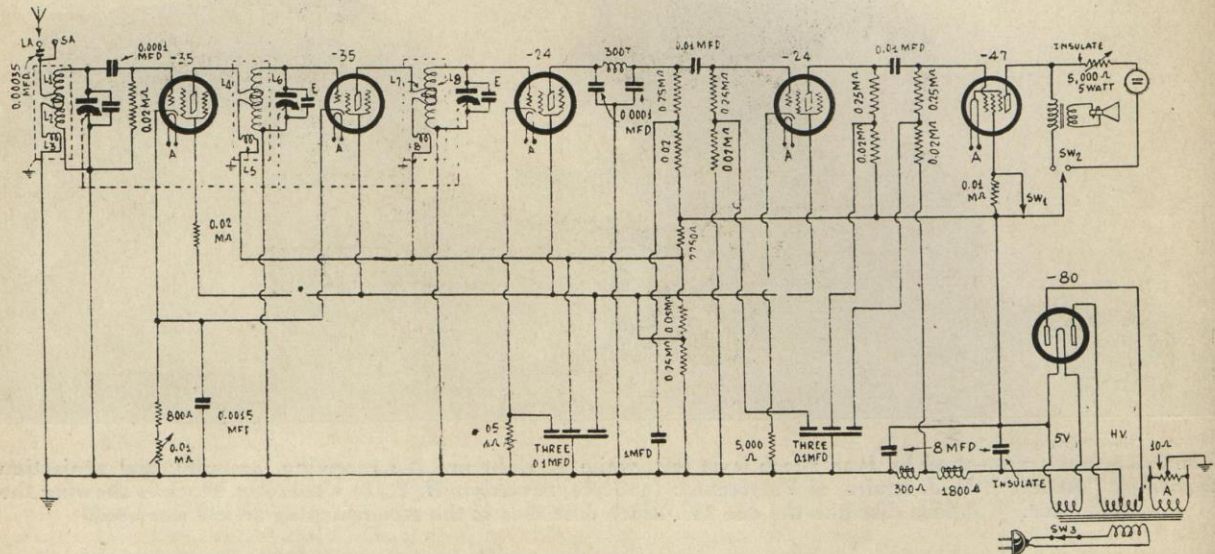
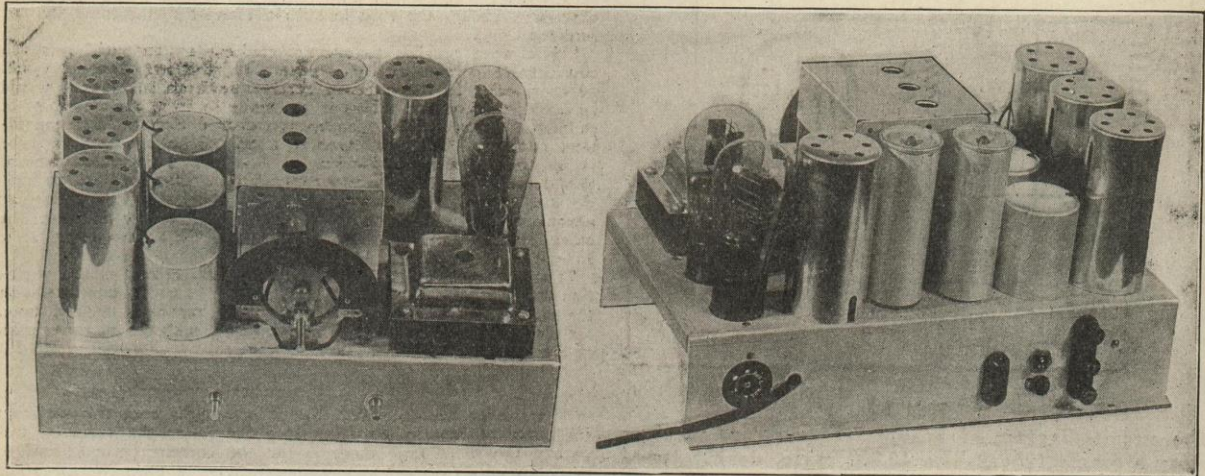

FIG. 1
FIG. 2
Three 20-100 mmfd. equalizing condensers, set at maximum for 0.0001 mfd. shown in Fig. 1.
The circuit diagram, Fig. 1, has the coils designed L1, L2, L3, L4, L5, L6, L7, L8, L9, the data for winding which have been given. The coils should be shielded and the shields grounded which grounding results if a grounded metal panel is used. E represents equalizing condensers built into the main tuning condensers. The tubes are identified. All resistors may be of 1 watt rating, unless otherwise marked. These two exceptions are the 2,250 ohm 5 watt, to reduce the maximum B load to a lower voltage for tuner plates, and the 5,000 ohm 5 watt rheostat. Add the 10 ohm
The front and rear views of the receiver, as built up by the author, are shown in Figs. 2 and 3. The tuning condenser is shielded, and the equalizers are accessible to a screwdriver. It is well to trim the circuit somewhere between 30 and 50 on the dial. The r-f and detector tubes are at left, Fig. 1, the detector at rear, and these tubes are shielded.
The television terminals are represented by the twin assembly, the switching is shown, with separate single-pole double-throw, and separate single-pole single-throw, for purposes already outlined, while the binding post assembly at right has marked posts for ground, long antenna (LA on Fig. 1) and short antenna (SA).